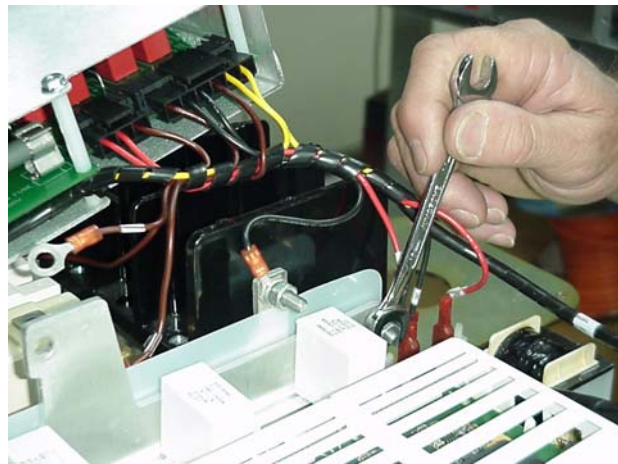

Figure 6-22 Removing the Ring Terminal from the Positive DC Bus Bar
4. Disconnect the +DC ring terminal from the +DC bus bar by removing the attaching hardware. Refer to Figure 6-22.
10. Connect the +DC ring terminal to the +DC bus bar. Secure the ring terminal with attaching hardware. Refer to Figure 6-22.